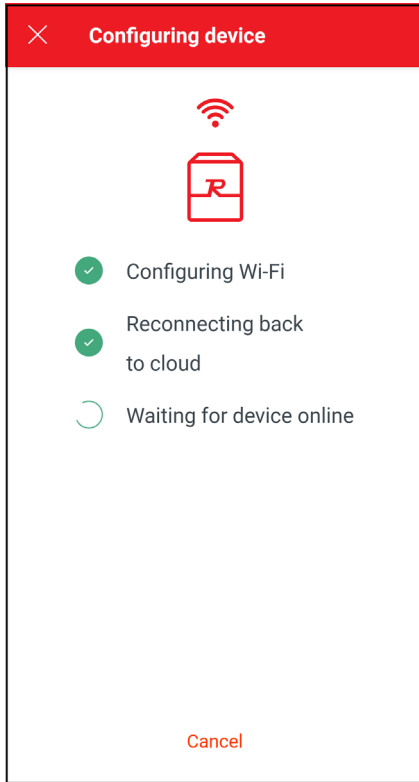

Figure 88. Configuring Device
- 6. The Raymote mobile app will provide the Wi-Fi network credentials to your unit. See **Figure 88**.